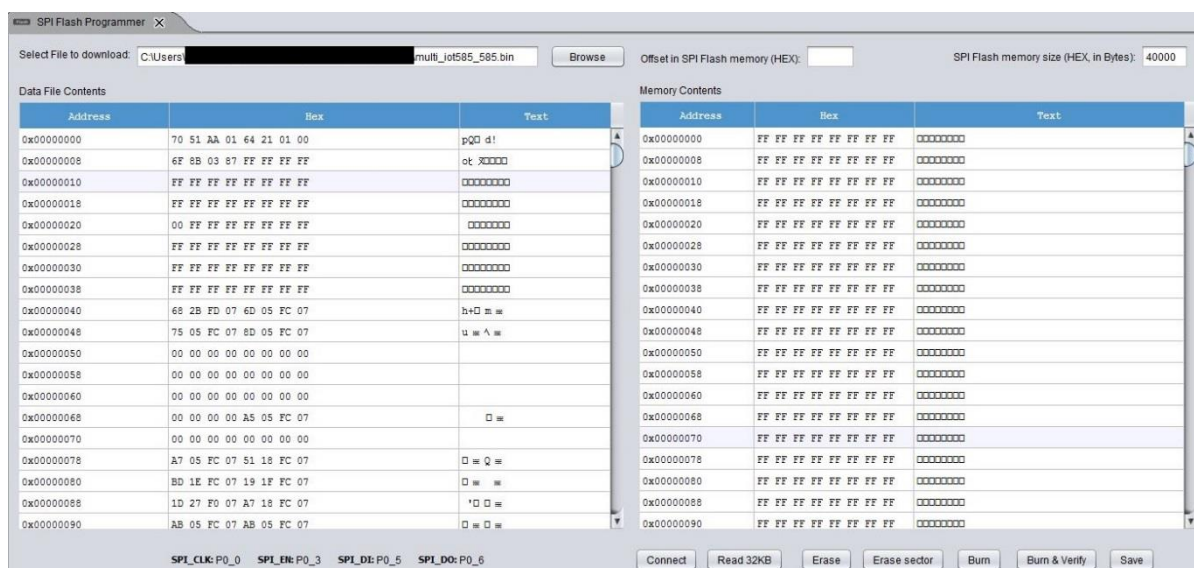

Figure 41: SPI Flash Programmer
- Click the  button on the left to open the **SPI Flash Programmer** (see Figure 41):